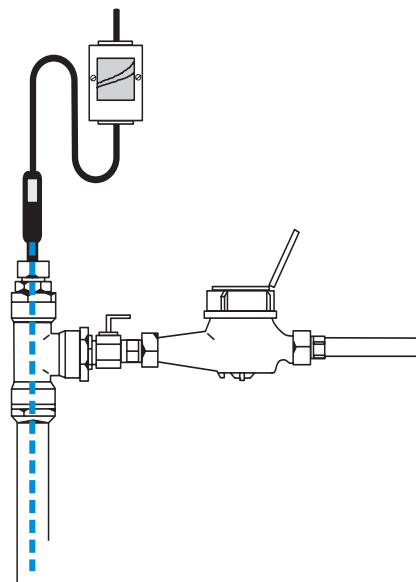
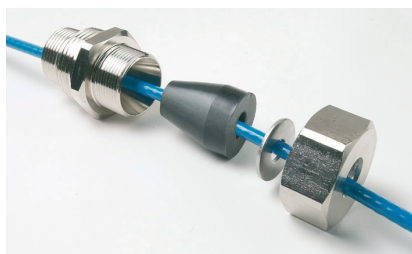

Fig. 10
Fig. 11
3. The cable is installed inside the pipe, see fig. 10. The Special Pipe fitting (3/4"+1", 10 bar @ 23 °C; included in ECaqua 9T is required for heating cable connection to the pipe, see fig. 11.